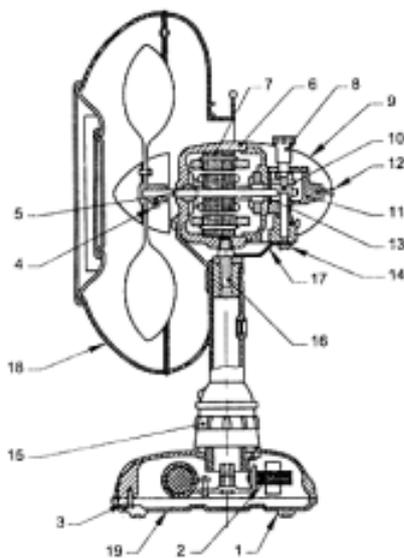

Fig.13.4 - Internal parts of table fan
**Parts of Table fan :** The parts of the ceiling fan are shown in Fig.13.4 and 13.5. The key components are the following;